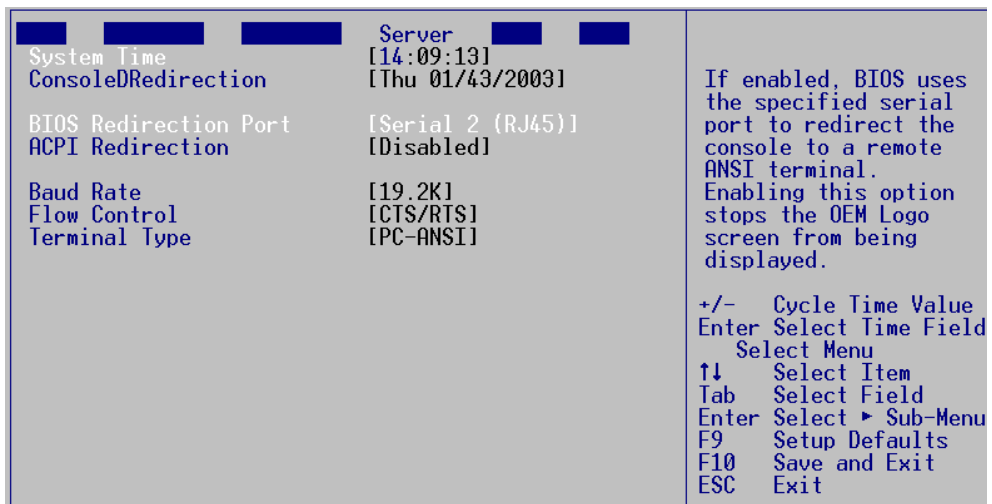

FIGURE 4-13 Console Redirection BIOS Setup
4. Select the options as shown in Figure 4-13.